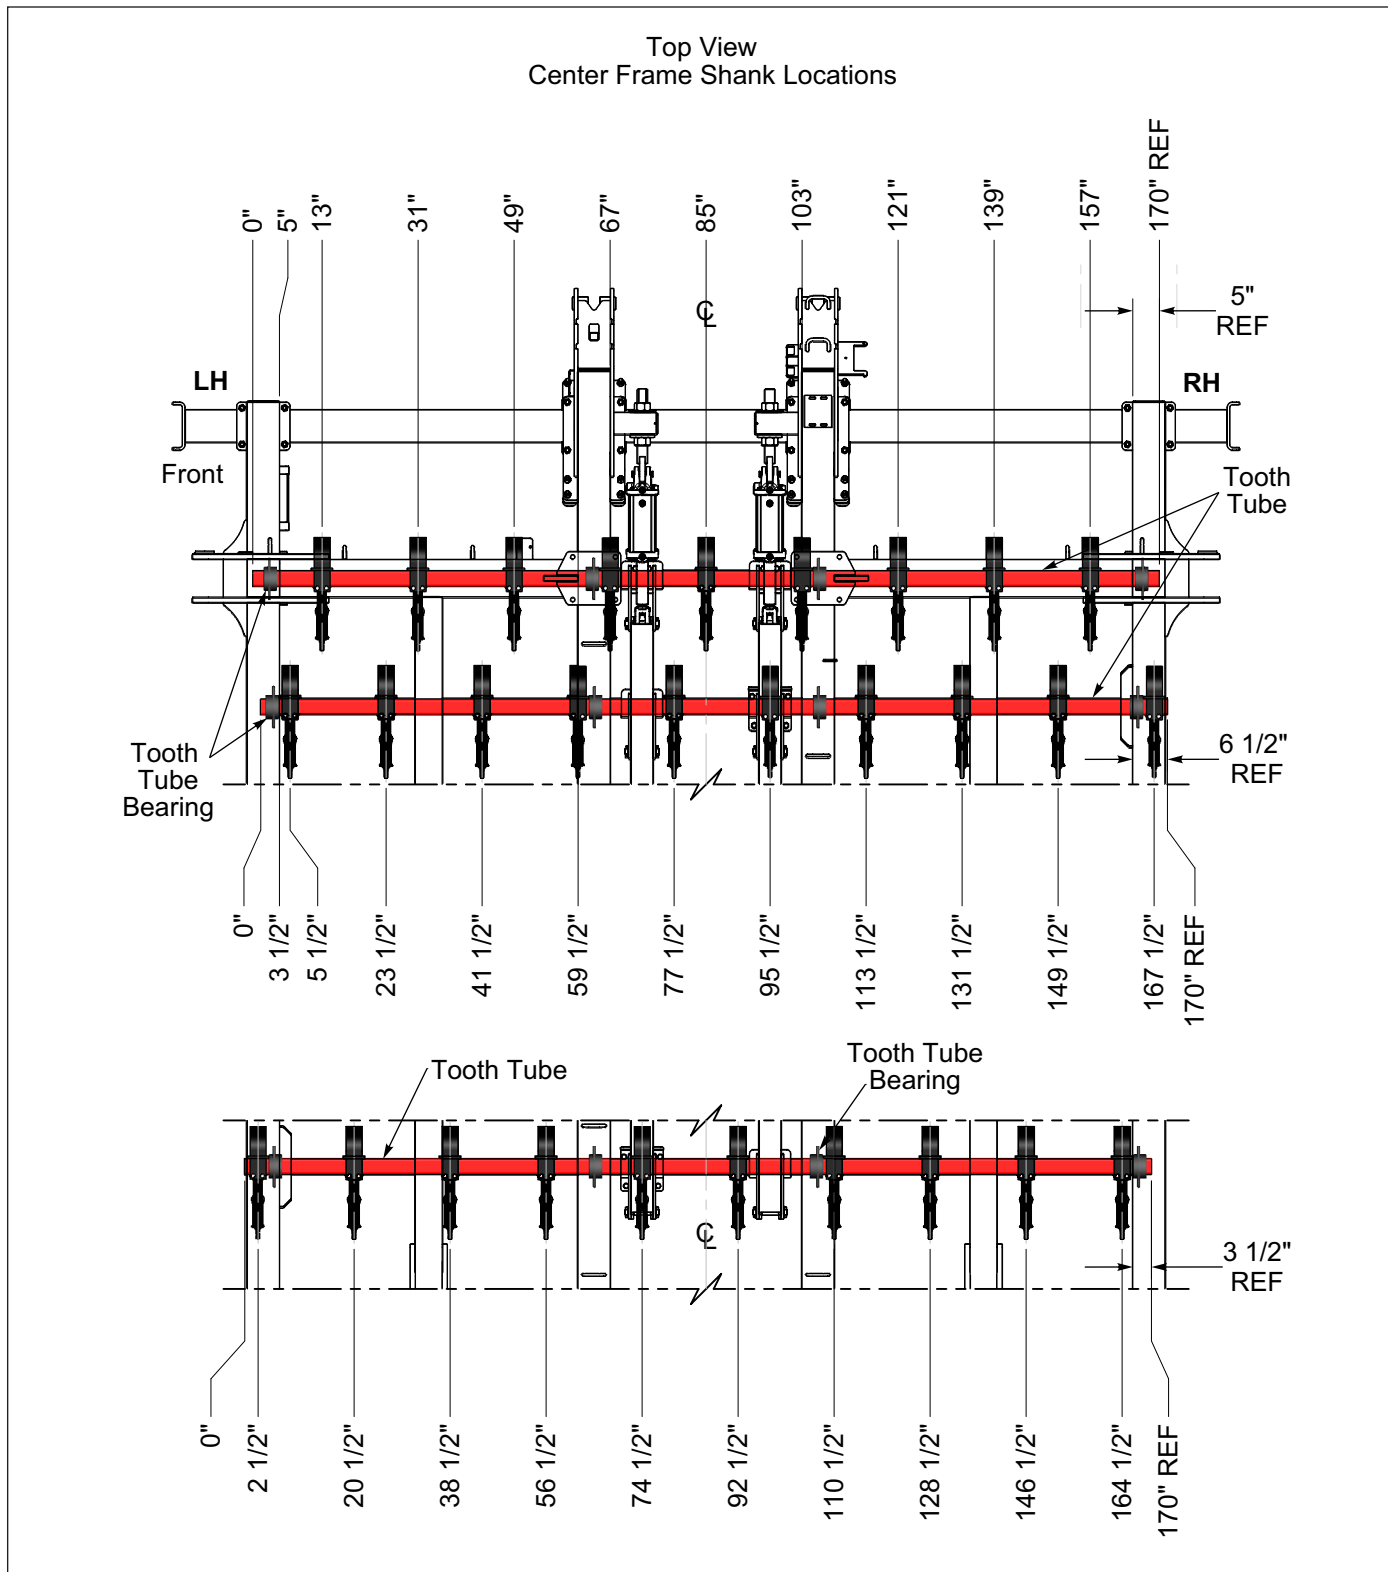

Figure 2-37: Center Frame Shank Mounting Dimensions
1. After marking the tubes for the shank locations, slide the 170" Tooth Tubes into the Tooth Tube Bearings. **See Figure 2-37.**
3. Mount the Shanks to the Tooth Control Tubes using two 1/2-13 x 5 Bolts and Locknut. **See Figure 2-37** for Center Shank Mounting Dimensions.